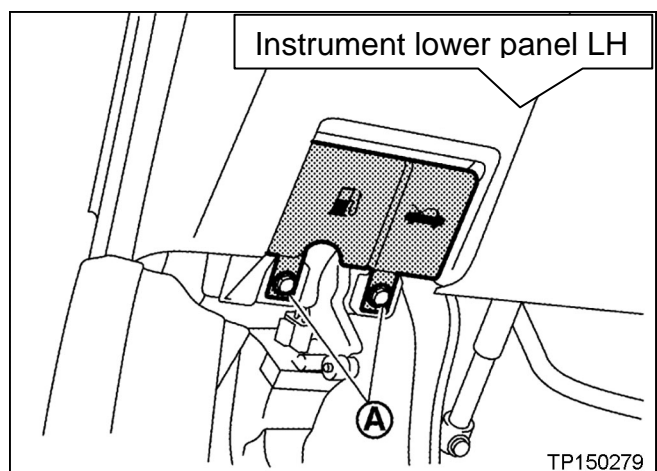

Figure S7
8. Remove bolts **A** (shown in Figure S7).